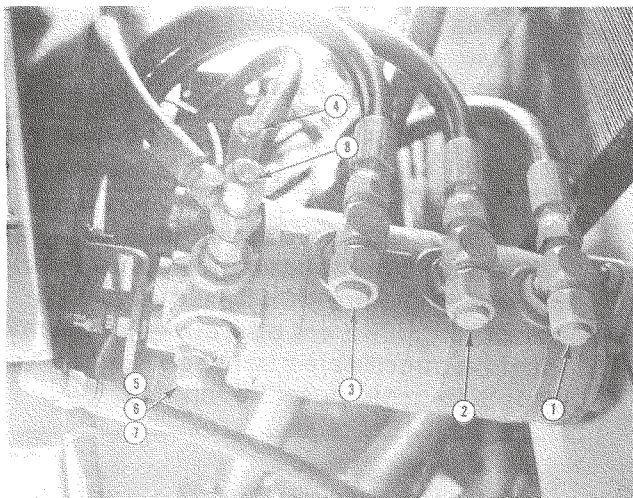

Figure 25. Front Hydraulic Pump
a) With engine off, remove cap (1) and install a 3000 psi gage with necessary adapters to hook to 3/4" JIC (12MJ) male fitting (Ref. 1, Fig. 25).
a) With the engine off, remove cap (8) (Fig. 25) and install a 3000 psi gage with necessary adapters to hook to a 1/2" JIC (08 MJ) male fitting. Disconnect the two cylinder hoses and install 1/2" JIC caps 9403374 on the male fittings on the top of the
a) With engine off remove cap (2) (Fig. 25, Ref. 2) and install a 3000 psi gage with necessary adapters to hook to a 3/4 JIC (12 MJ) male fitting.
a) With engine off, remove cap (Ref. 3, Figure 25) and proceed the same as the left conveyor.
a) With engine "off," remove cap (4) on pump (Fig. 25) and install a 3000 psi gage with necessary adapters to hook up to a 1/2" JIC (08 MJ) male fitting.
e) If the relief pressure cannot be reached, the secondary relief valve within the pump may be set below 1950 psi. To verify and set this relief valve (Fig. 25) remove cap (5), loosen locknut (6) and adjust relief valve (7) to 2000 psi (Fig. 25) while holding the wheels full left or right.